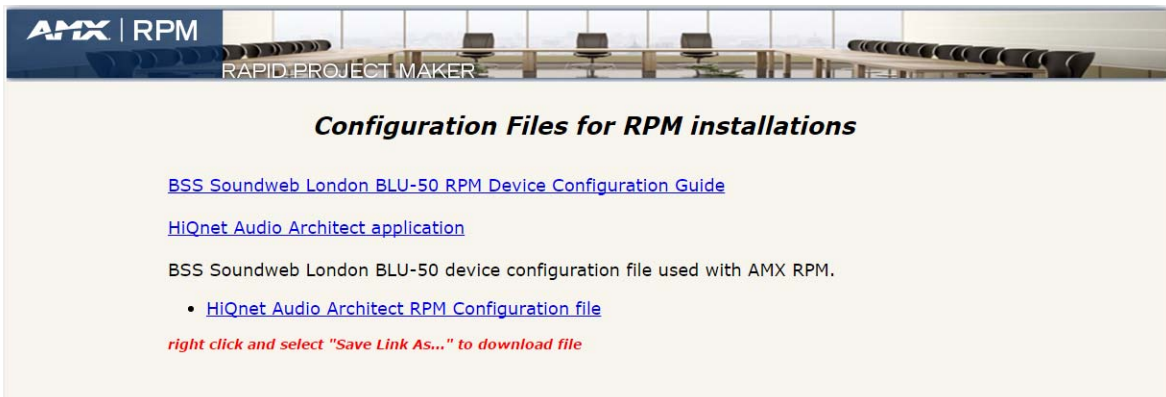

FIG. 4 RPM Project Report - Right-click to download the BLU-50 RPM Configuration files
- Right-click on the underlined links and select Save As to save the files to a local directory, for use by the Audio Architect configuration software application (FIG. 4):